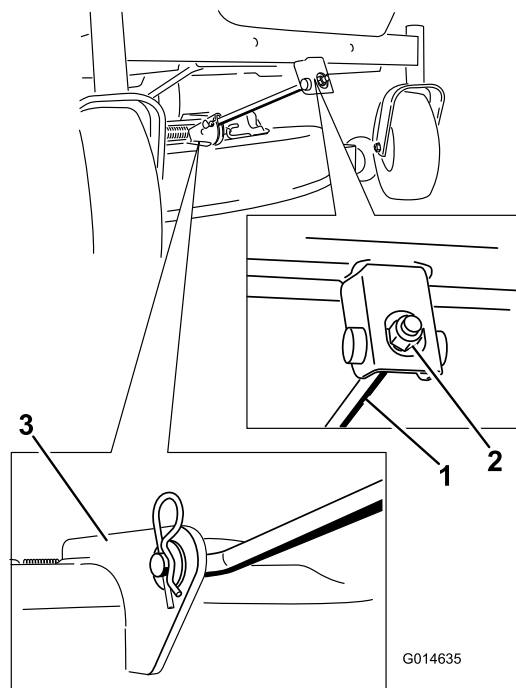

Figure 63
4. Remove the hairpin cotter from the front support rod and remove the rod from the deck bracket (Figure 63). Carefully lower the front of the mower deck to the ground.
- Attach the front support rod to the mower deck with the clevis pin and hairpin cotter (Figure 63).